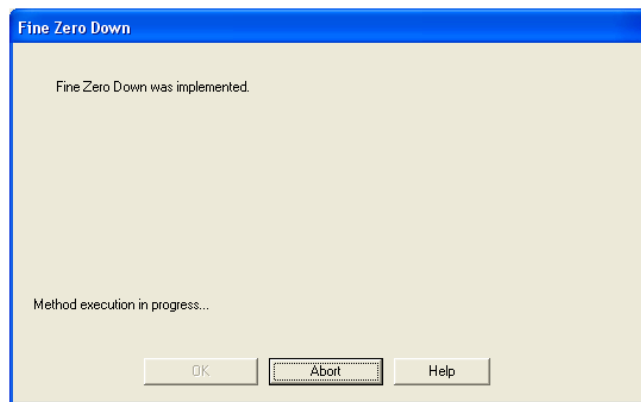

Figure 12 Trim Implemented
2. To adjust the zero reading click on either the coarse or fine zero up or down menu button to increase or decrease the milliamp output of the unit. A pop-up box will be displayed briefly each time you click on an up or down box in this screen telling you your adjustments were implemented. (See Figure 12) Continue until your device is as close as possible to the desired output.
2. To adjust the span reading click on either the coarse or fine zero up or down menu button to increase or decrease the milliamp output of the unit. A pop-up box will be displayed briefly each time you click on an up or down box in this screen telling you your adjustments were implemented. (See Figure 12) Continue until your device is as close as possible to the desired output.